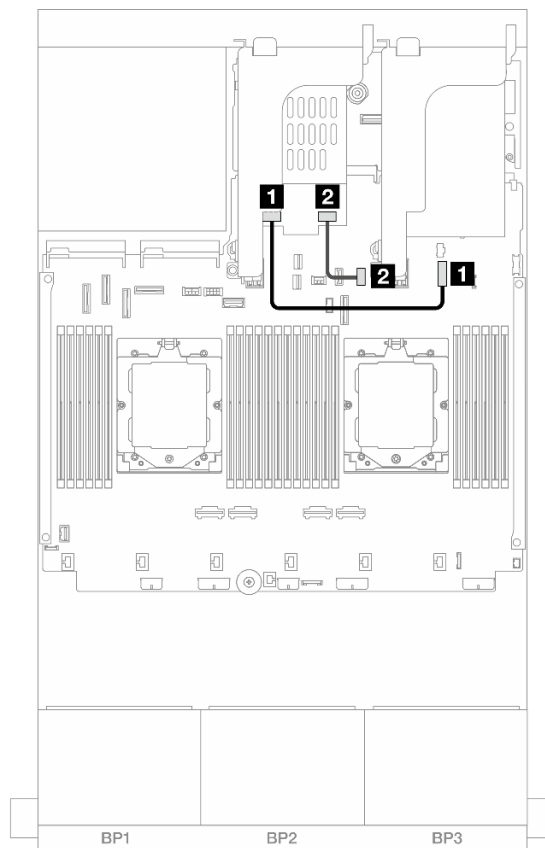

Figure 303. SATA cable routing
- Figure 303 “SATA cable routing” on page 313